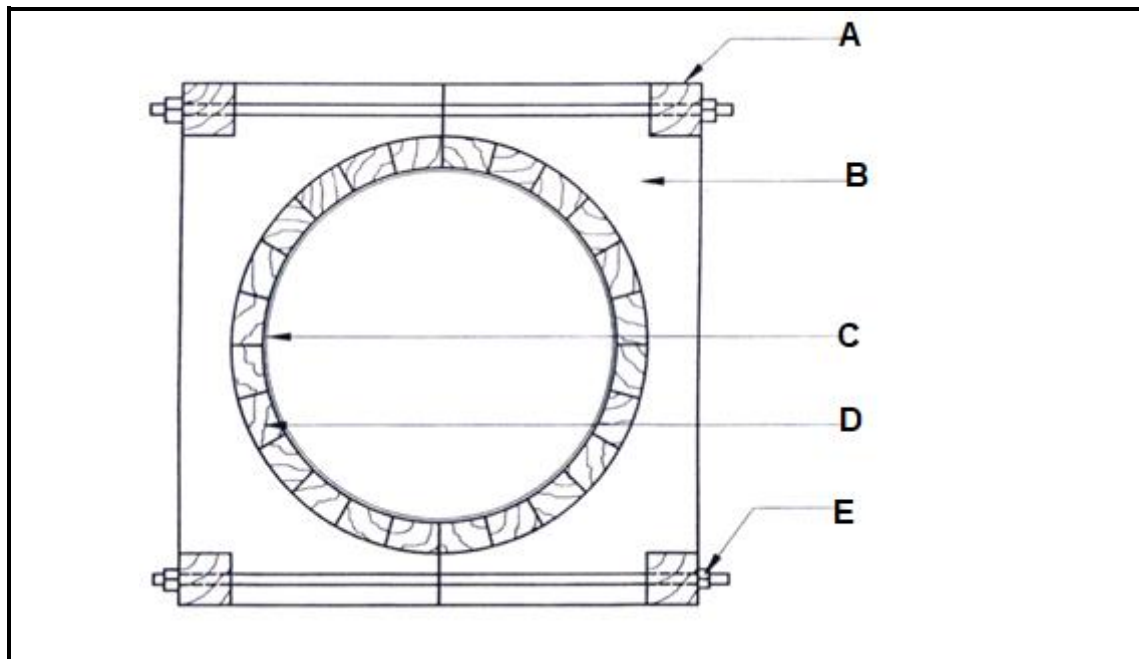

FIGURE 5.1
5.1 FIGURE 5.1 below shows a horizontal section view through a round column.
Study FIGURE 5.1 and answer the questions that follow.